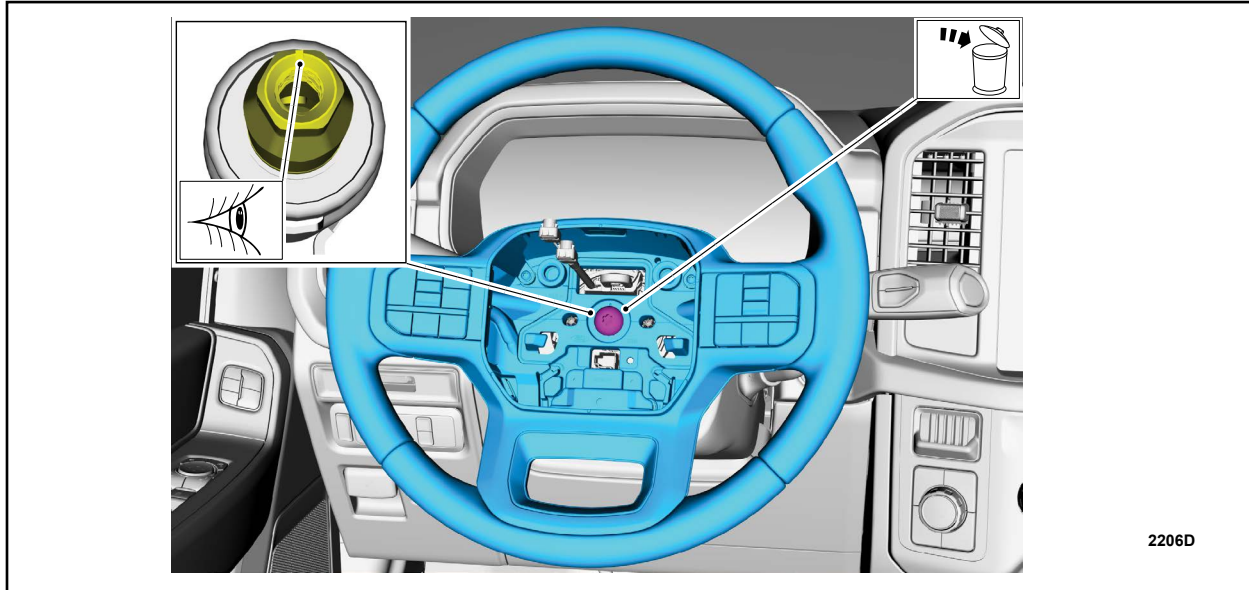

FIGURE 12
4. Remove and discard the steering wheel bolt and remove the steering wheel. See Figure 12.